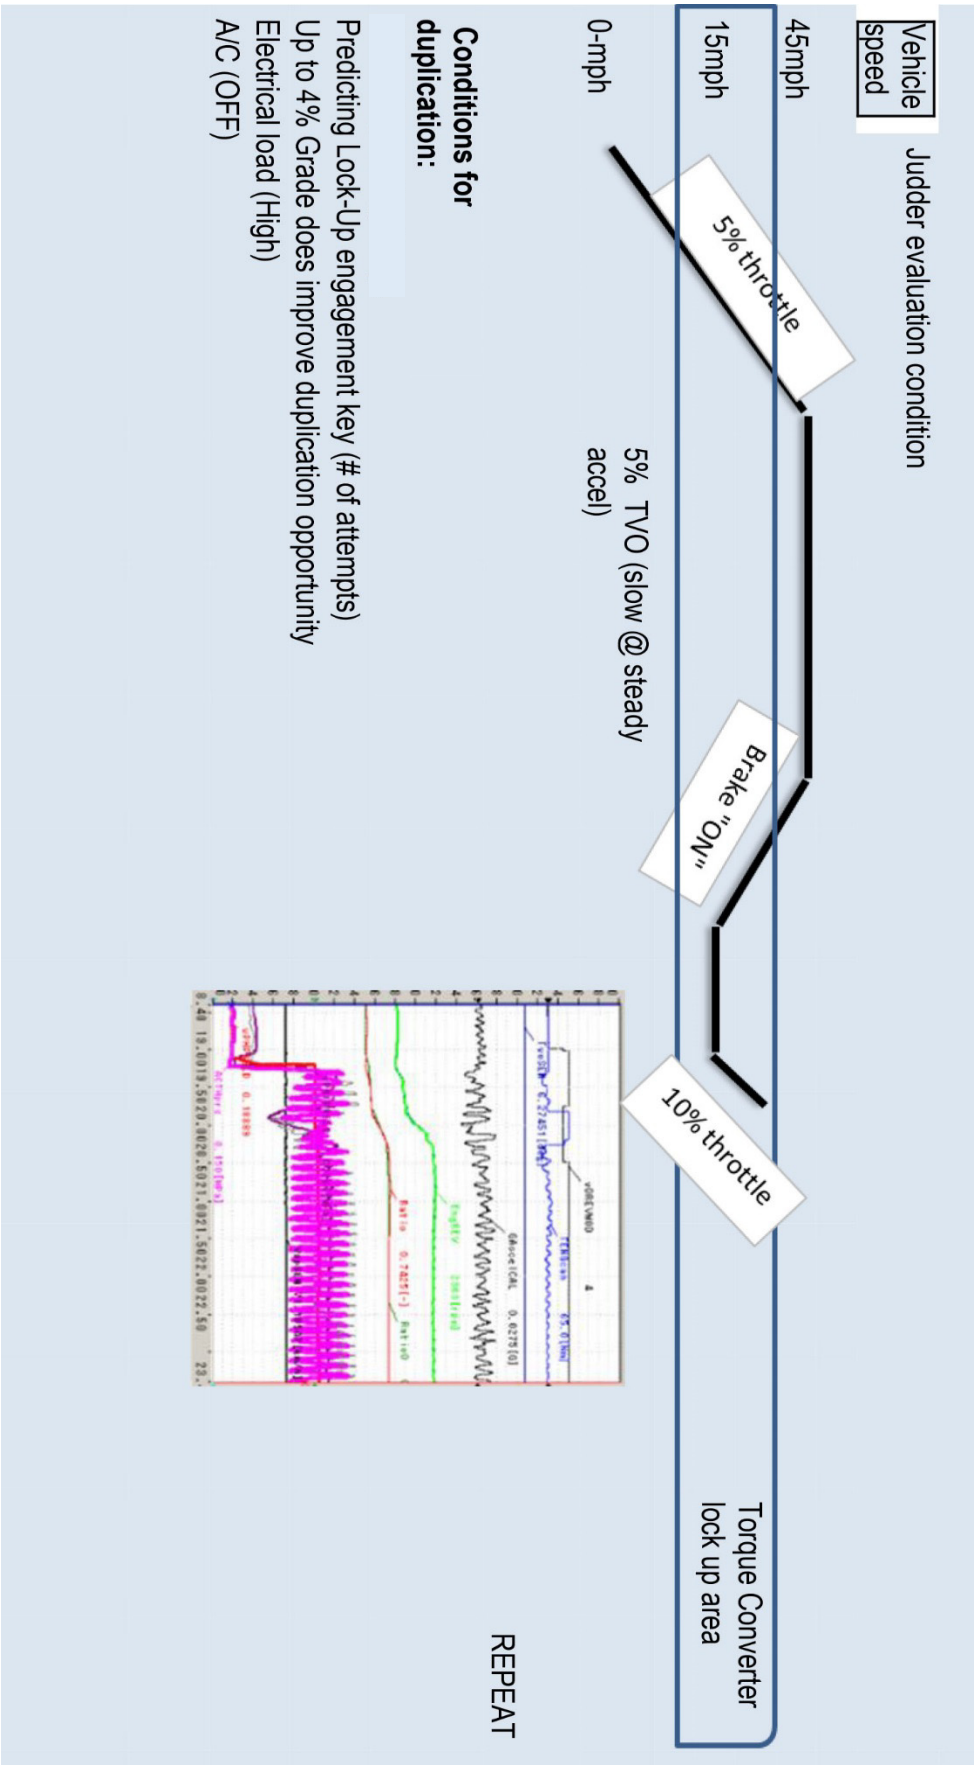

Figure 8
- Figure 8, on the next page, illustrates conditions under which judder can be reproduced.
- Figure 8 on the next page illustrates conditions under which judder can be reproduced.
Figure 8 below illustrates conditions under which judder can be reproduced.